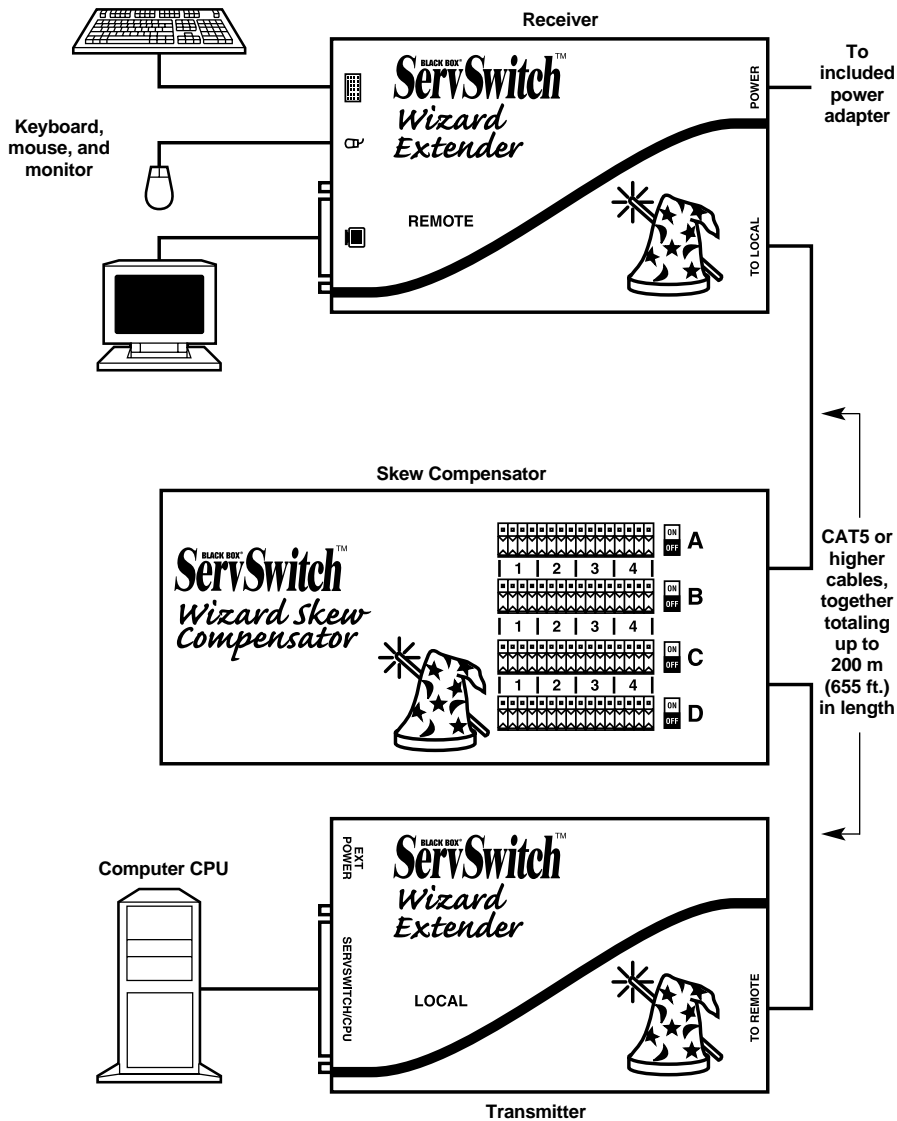

Figure 7-2. An Extender system with a Skew Compensator installed.
- If none of the other solutions are practical or if none of them work, you can install a ServSwitch™ Wizard Skew Compensator (product code ACU5100A) between your transmitter and receiver, as shown in Figure 7-2.
To compensate for the skew, set the Skew Compensator’s switches as indicated in the report and use a second cable to insert it into the twisted-pair cable run between the transmitter and receiver, as shown in Figure 7-2. If this is a lower-quality patch cable, it should be as short as possible. It doesn’t matter which cable you plug into which of the Compensator’s two RJ-45 jacks; the Compensator is fully bidirectional.